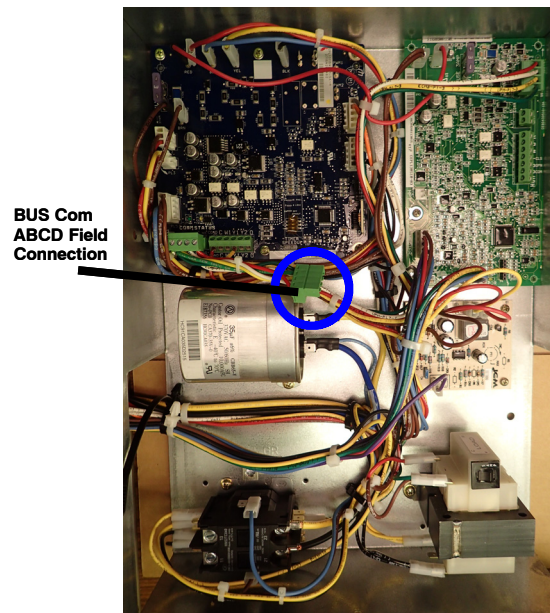

Fig. 12 - ABCD BUS COM Connection
Use the field ABCD connector provided with the User Interface. Connect this plug to the factory wired female ABCD connector on the bus com harness (see Fig. 12). Use No. 18 AWG color-coded, insulated (35°C minimum) wires to make low-voltage connections between User Interface and unit. If User Interface is located more than 100 ft. from unit (as measured along the low-voltage wires), use No. 16 AWG color-coded, insulated (35°C minimum) wires or in accordance with local codes.
User Interface (UI) is designed to self-program with the the GC unit when connected to the unit bus com harness ABCD connector (refer to Fig. 12) with the ABCD male adapter included with the unit in the literature packet shipped with the unit. 4 wires are needed as the bus com harness communicates between both unit boards and the UI when connected.